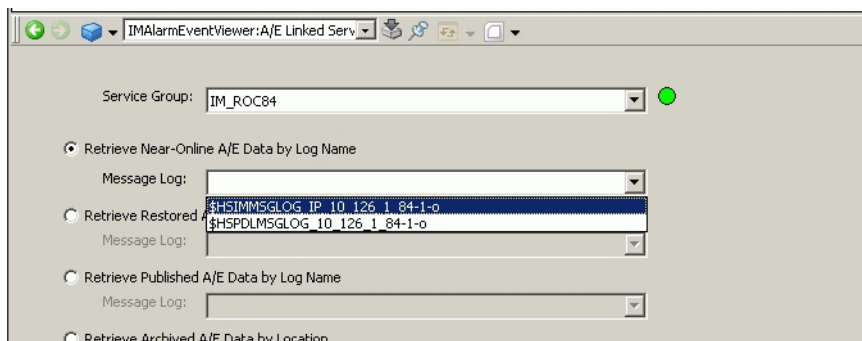

Figure 103. Selecting the Class of Message to Retrieve
- c. Select one of the four mutually exclusive radio buttons to select the type of messages to read, Figure 103. The categories are described in Table 20.